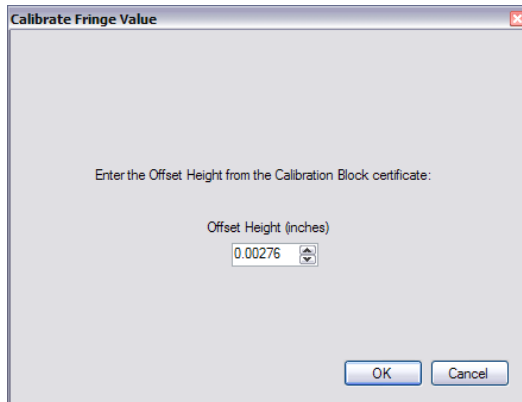

Figure 3.8 Offset Value Dialog
5. Enter the cal block Offset Height value in the next window and click **OK** (**Figure 3.8**). This value can be found on the Calibration Certificate provided with each block (**Figure 3.9**).